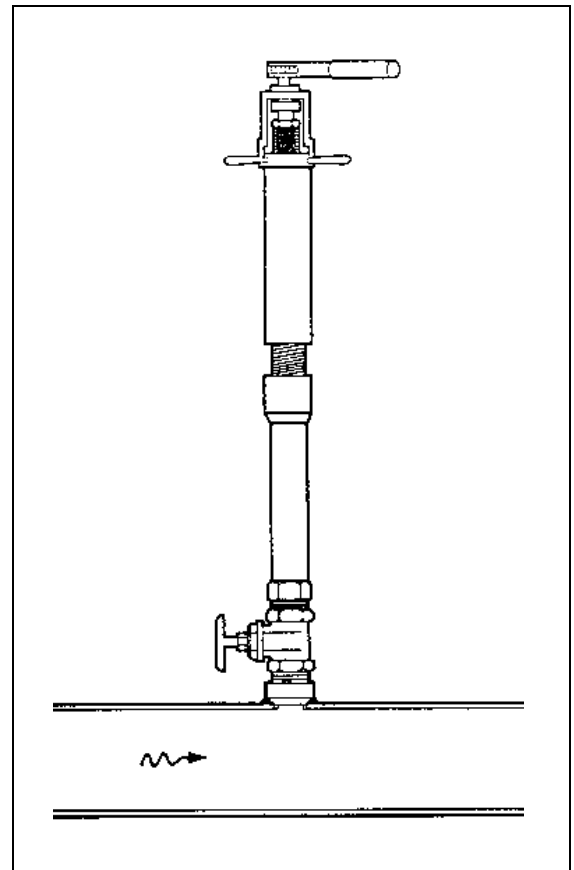

Fig. 10: Drilling machine with adapter nipple mounted on unit isolating valve
6. Fasten special adapter flanged nipple to unit isolating valve (Fig. 10).